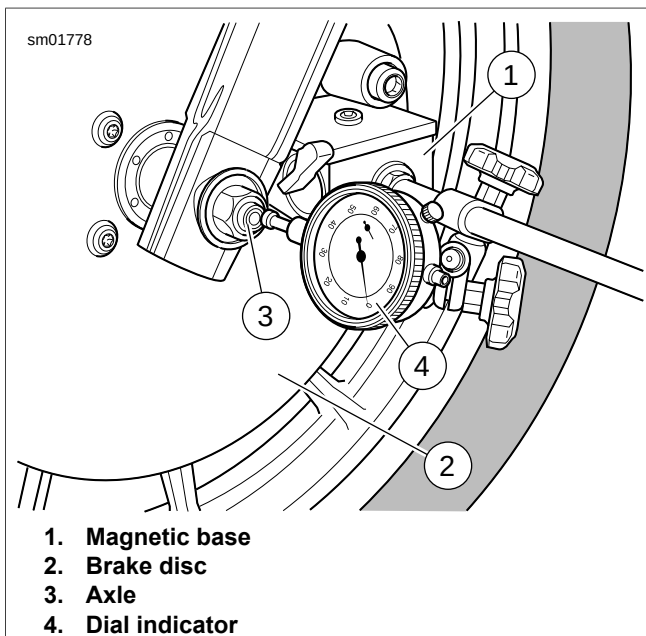

Figure 2-9. Check Wheel Bearing End Play
2. See Figure 2-9. Mount a magnetic base dial indicator on the brake disc.